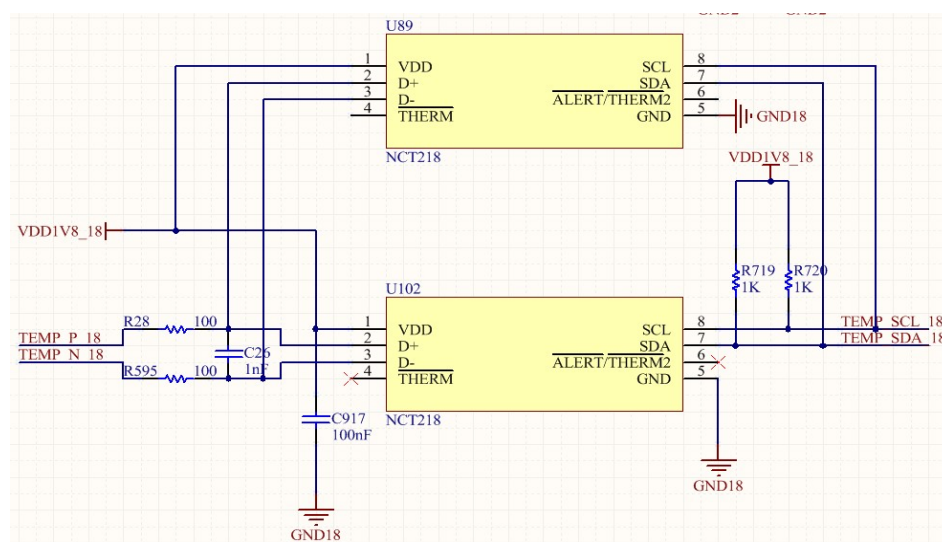

Fig 21. Temperature Sensor Schematic Diagram
**9. Temperature sensor circuit: two temperature sensors, one is TEMP (PCB), consisting of sensor IC; the other is TEMP (CHIP), composing of chip build-in temperature sensor group (BM1387 pin 15 and pin 16). The two temperature sensors collect parameter, and return to FPGA of control panel from RI via BM1387 pin 17 and pin 18. The principle is as Fig 21: The normal temperature range of the chip of S9 Miner Temp (Chip2) is 65-125 degrees Celsius, and the max running temperature of miner chip is degrees Celsius. When exceeding the range, red light blinks and gives an alarm, and machine halts for protection.**